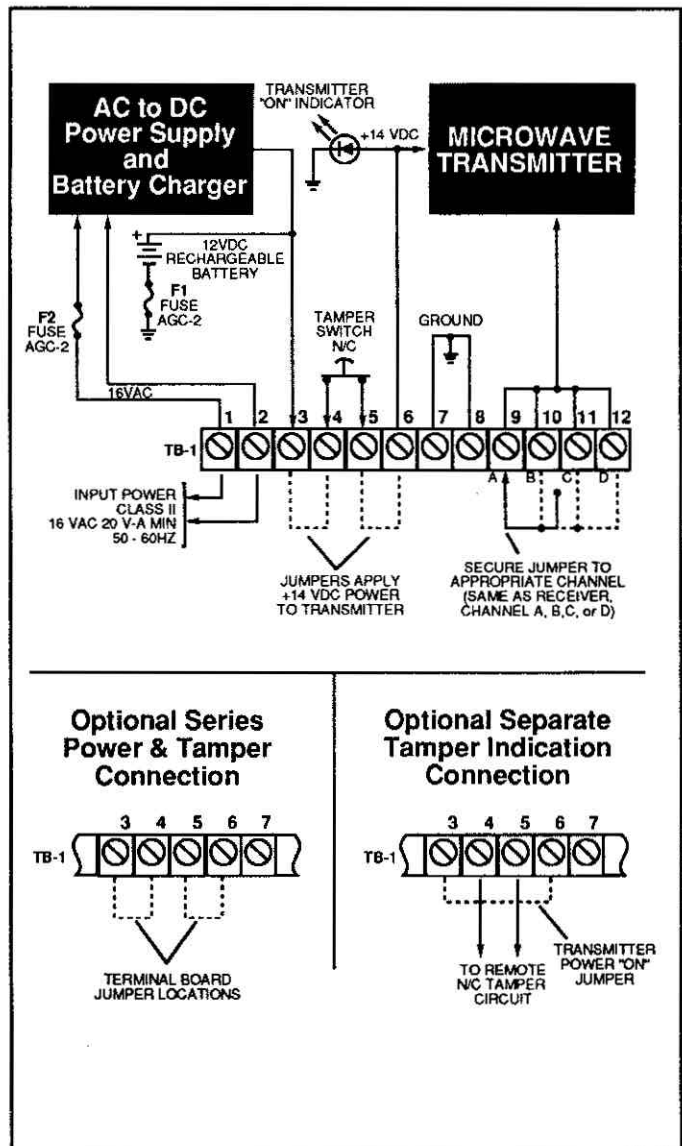

Figure 3: Transmitter Interconnection
- a. Transmitter (see Figure 3). Normally signal wires from the transmitter to the alarm reporting panel are not required; the tamper circuit is factory wired to disable the transmitter (thereby putting the receiver in alarm) whenever the enclosure is opened. In those installations where separate tamper reporting is required, a twisted, shielded pair of wires must be run from the transmitter back to the alarm reporting panel. This signal wire should be shielded; the wire size is determined by the amount of current flowing through the wire and the total length of wire.